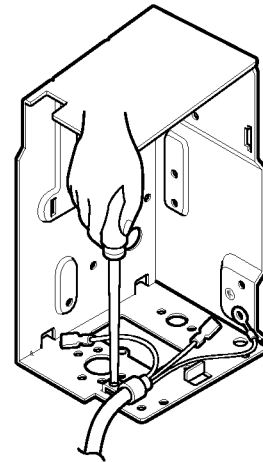

Figure 12
5. Pull the power cord. (See to figure 12)